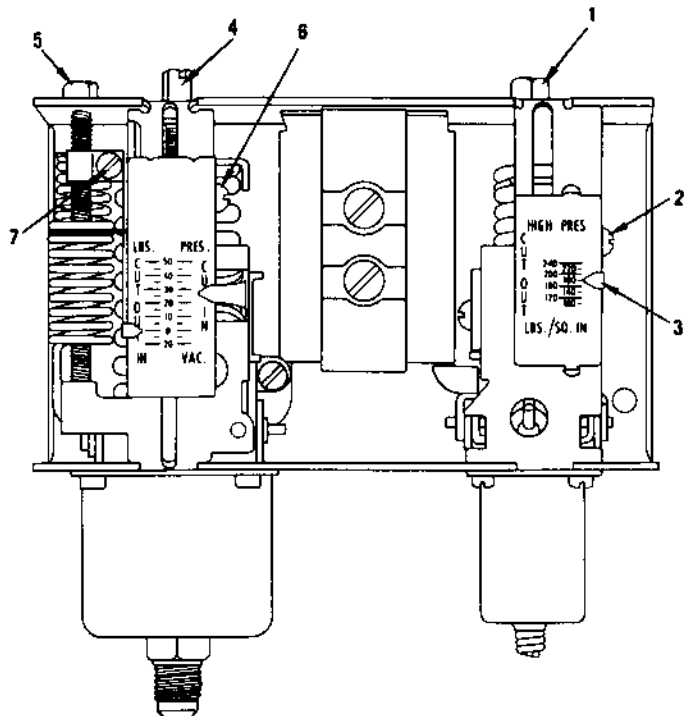

FIGURE 4—Refrigerant Pressure Control.
(See Figure 4)
1. Lower or raise the setting of the switch, as required, by turning the High Pressure Cutout adjustment screw (1—Figure 4), and continue with the test.
2. When the switch is cutting out at the correct gauge pressure, recalibrate the scale by loosening the calibration screw (2—Figure 4) and sliding the indicator (3—Figure 4) until it indicates the gauge pressure at which the switch is cutting out.
1. If the switch fails to function in the manner described above, raise or lower the cut-in and cut-out pressure settings, as required, by turning the adjusting screws (4 and 5—Figure 4) and continue with the test.
2. When the switch is operating correctly, loosen the calibration screw (6—Figure 4) and slide the scale until the gauge pressure at which the compressor cuts in is indicated on the right side of scale. Loosen calibration screw (7—Figure 4) and slide the indicator to the gauge pressure at which the compressor stops.